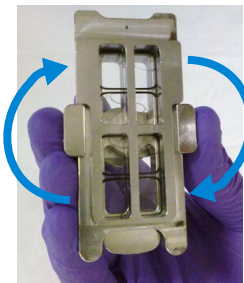

Figure 11. Rotation of the final assembled chamber
- 4 Rotate the final assembled chamber in a *vertical orientation*, clockwise, 2 to 3 times to wet the gaskets (see **Figure 11**).